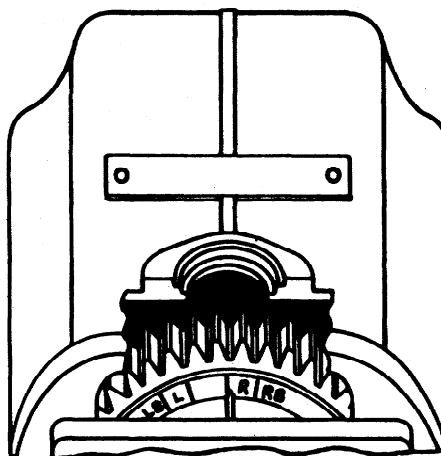

Figure 3. Alignment of Timing Marks on Distributor Gear – 6 Cylinder, Single Breaker, Right Hand Rotation
- b. "6" Cylinder, single breaker types – The timing rib on the distributor block MUST lie between the "L" and "LB" or the "R" and "RB" marks on the gear, and should be nearer to the "L" or "R" mark, depending on magneto rotation. (See figure 3)